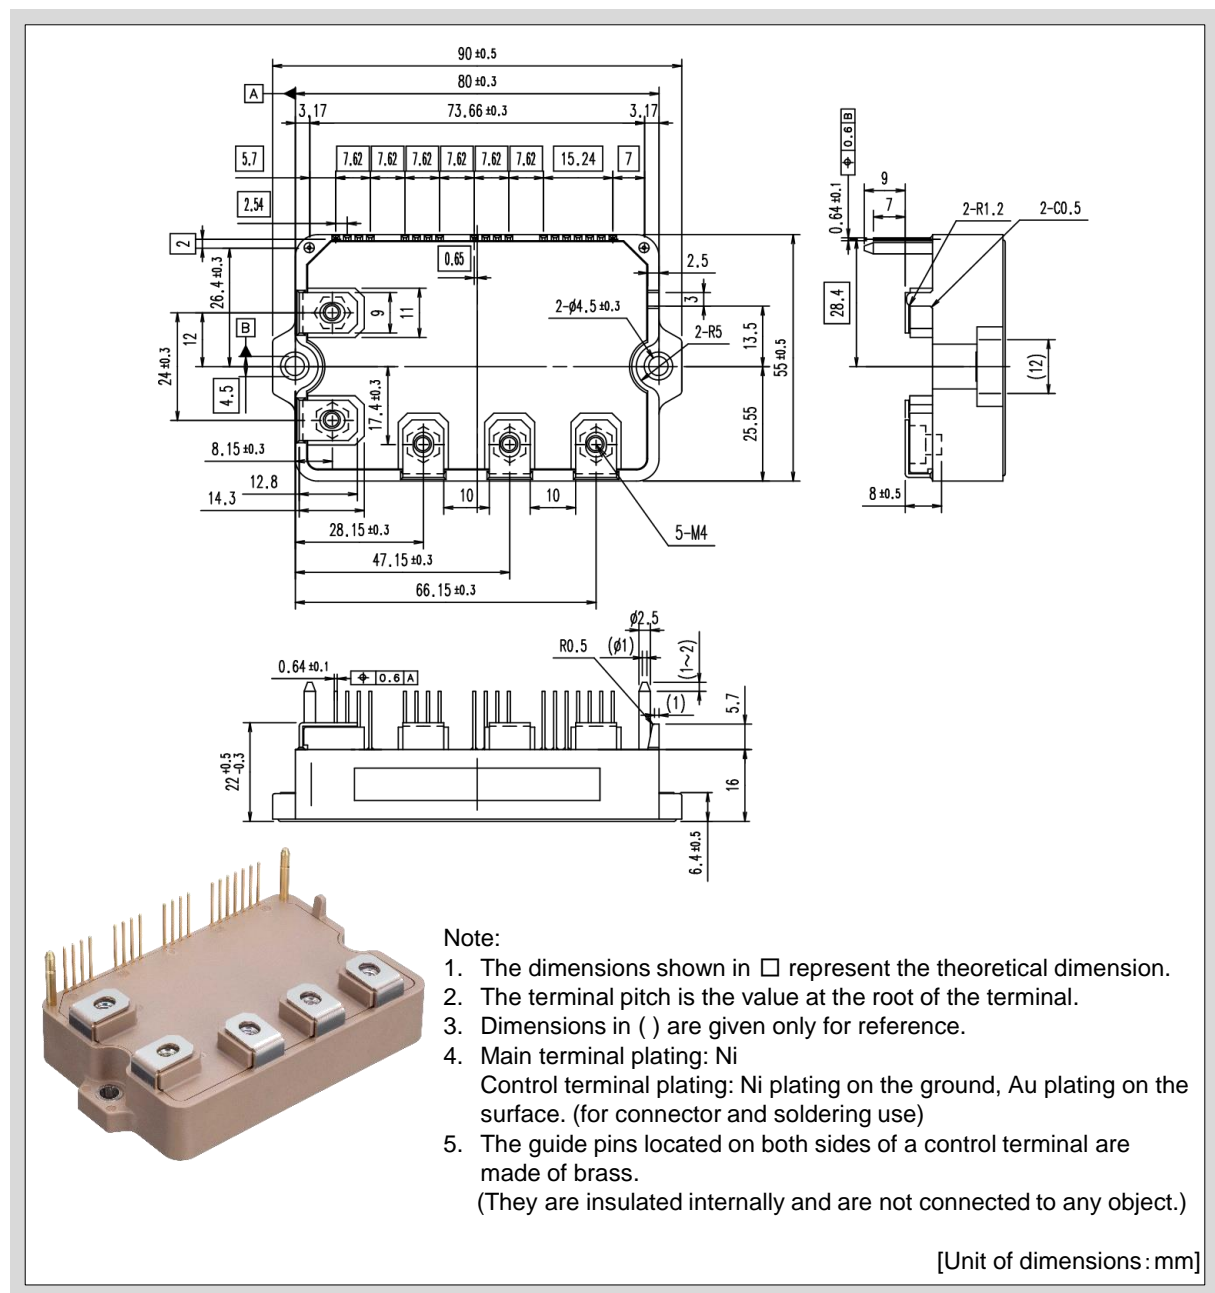

Fig.1-7 Package outline drawing (P638)
- The package outline drawing is shown in Figure 1-7.